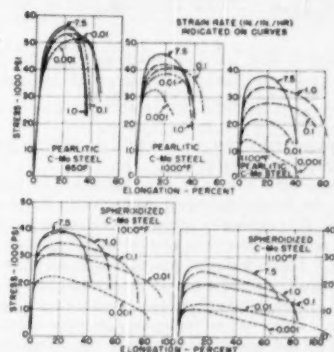

FIG. 2 STRESS-STRAIN CURVES FOR CONTROLLED STRAIN-RATE TENSILE TESTS OF PEARLITIC AND SPHEROIDIZED CARBON-MOLYBDENUM STEEL AT 850, 1000, AND 1100 F
**Effect of Temperature.** With increasing temperature, the load-elongation diagram is displaced to a lower level. This feature, as well as several others, may be noted in Fig. 2. This illustration shows the effects not only of temperature, but also of strain rate, on the load-elongation curve of 0.5 per cent molybdenum steel, such as has been widely employed in the past for steam-pipe service. The steel was tested not only in the condition in which it generally entered service, but also in a spheroidized condition, which simulates the microstructural changes that occur during service. It may be noted that this treatment causes a decrease in strength. In regard to the effect of temperature, the tensile strength of the pearlitic material, for a strain rate of 7.5 in. per in. per hr, decreases continuously from about 56,000 psi at 850 F to about 38,000 psi at 1100 F.